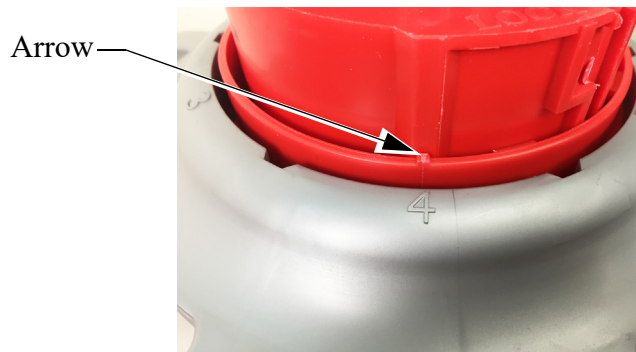

Figure 48. Setting Feeder Position
**The feeder should be set on the #4 position for most applications.** The adjustment settings are easy to understand and change. Setting numbers are embossed on the top of the grill so they may be easily seen, see **figure 48.** Spin the Grill to line up the desired numbered position with the arrow on the Cone.